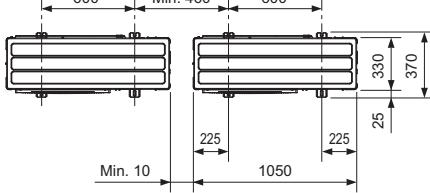

Fig. 3-1
④ M10 (3/8") bolt
⑤ Base
⑥ As long as possible.
⑦ Vent
⑧ Set deep in the ground
- Be sure to install the unit in a sturdy, level surface to prevent rattling noises during operation. (Fig. 3-1)